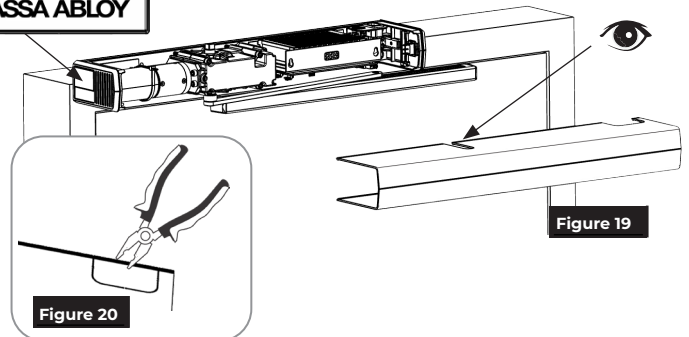

Figure 20
3. **Optional:** If the PC Conduit Bracket or Surface Conduit Bracket is installed, use pliers to remove the appropriate knockout located at the top of the cover. (Figure 20)